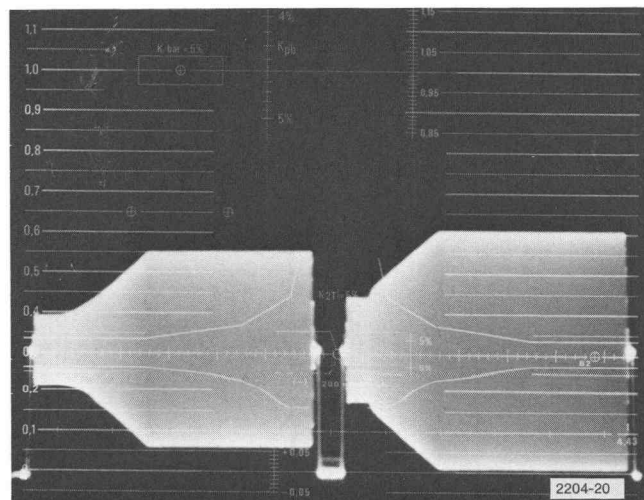

Fig. 1-20. 2 lines of Field Identification signal.
11. IDENT: Set the waveform monitor to display lines 12 and 13 from field one. Note that line 12 has a D'B identification signal (bottle) and line 13 a D'R. See Fig. 1-20.